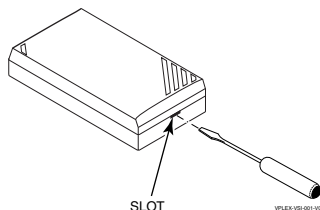

FIGURE 2: OPENING THE COVER
1. Open the module's cover by inserting and twisting a screwdriver blade in the slot at the center of the cover's lower edge (see Figure 2).